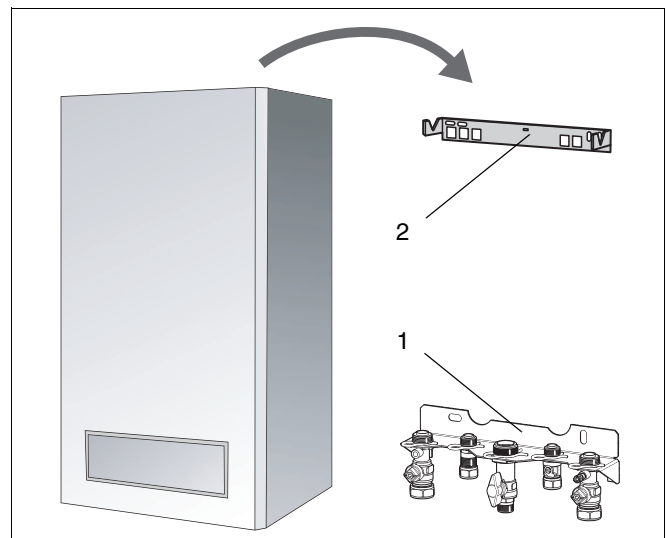

fig. 5 Installation
- Attach the manifold assembly (located at top of boiler) to the wall (\rightarrow fig. 5, item 1).
- Attach the wall bracket (→ fig. 5, item 2).
- Hang the condensing gas boiler onto the wall bracket (→ fig. 5).